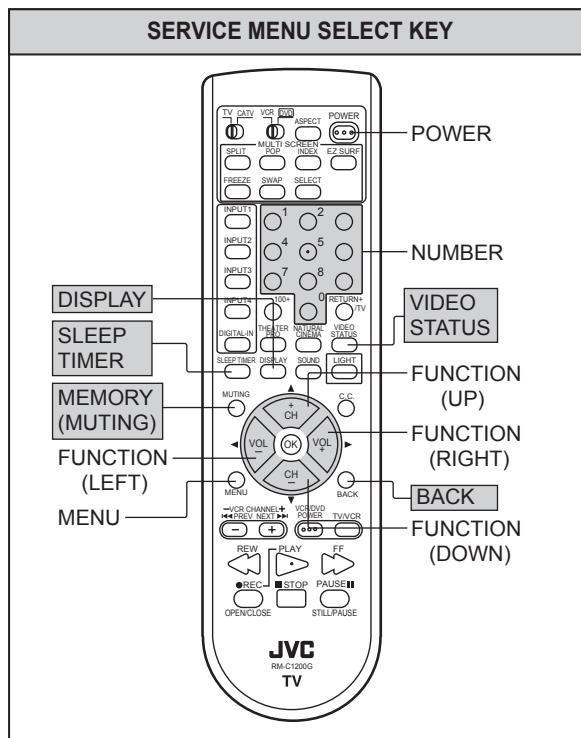

Fig.2
- (4) SERVICE MENU setting
- a) Press **[SLEEP TIMER]** key and, while the indication of **SLEEP TIMER 0 MIN** is being displayed, press **[DISPLAY]** key and **[VIDEO STATUS]** key on the remote control unit (Fig.2) simultaneously.